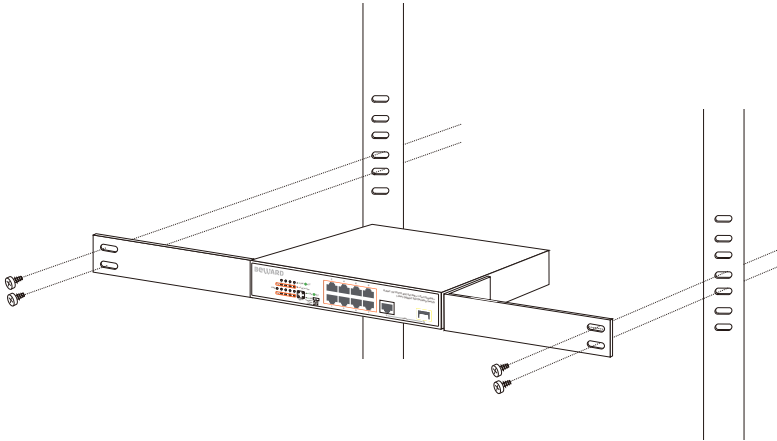

Figure 3-3: Mounting the ST-811HP in a Rack
Step 5: After the brackets are attached to the ST-811HP, use suitable screws to securely attach the brackets to the rack, as shown in Figure 3-3.